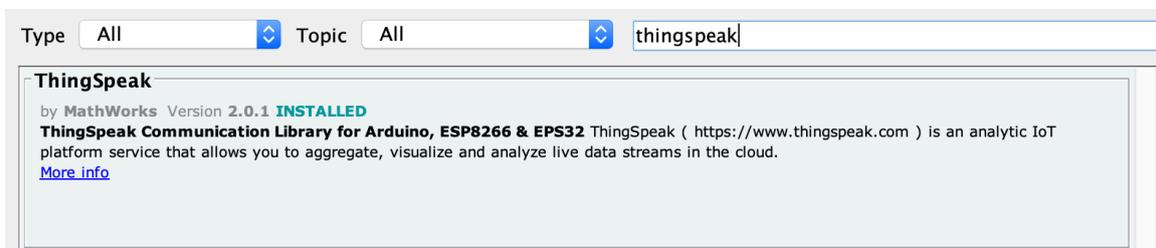

Figure B6
25. Type **ThingSpeak** to filter the list of available libraries, then click Install as in Figure B6.